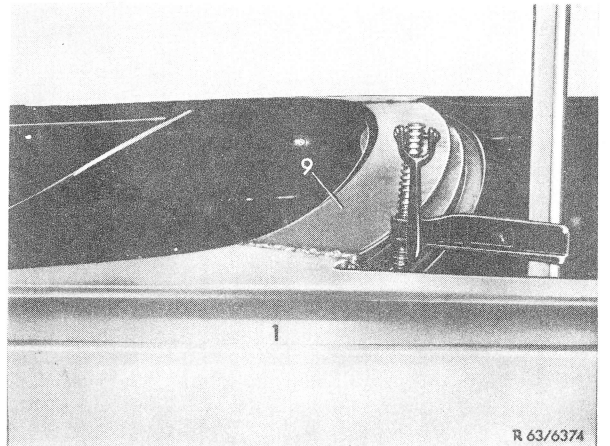

Fig. 9
29 Weld rear fender (1) to rear center piece top (9) (Fig. 9).